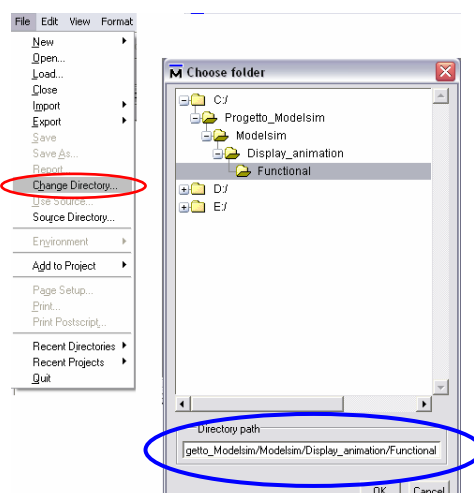

Figure 7: GUI-Changing directory
- Open the **Change Directory** form the **File** menu (highlighted in red in figure 7);
- Select the exact path to reach the previously created folder (highlighted in blue in figure 7);